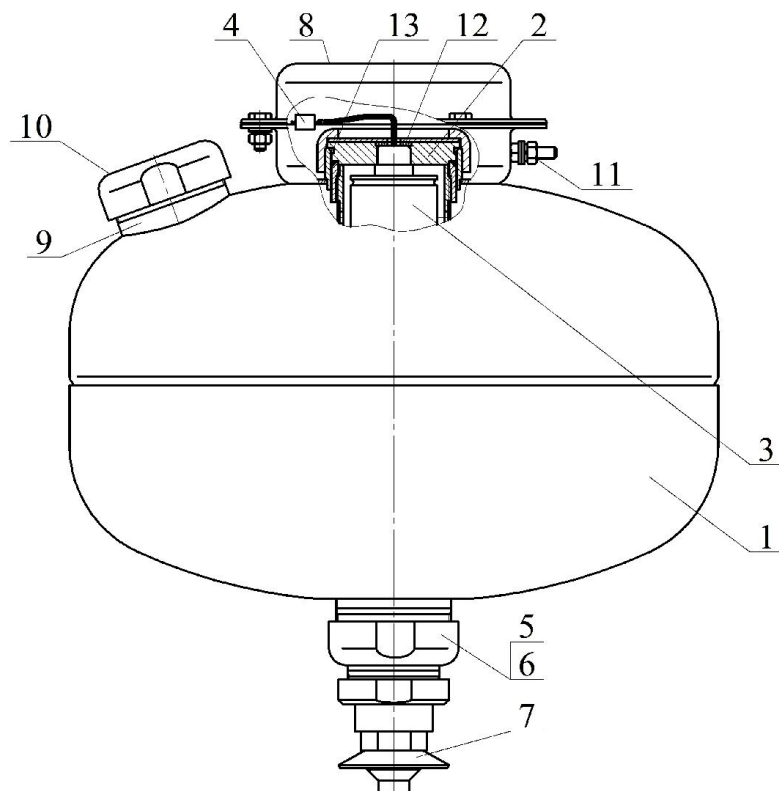
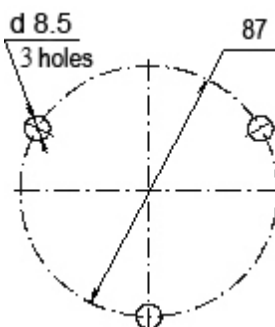

Figure 1
Figure 3
4.1.1 WSFEM (See Figure 1) consists of a case **1** filled with FES, inside which a gas-generating device **2** is placed. CGS **3** with electrical-triggering element **4** is placed inside a hermetic case of gas-generating device. Lower throat of a case is overlapped with shear membrane **5** which is pressed by nut **6**. Spray nozzle **7** is connected with nut **6** through a filter element. Bracket **8** is placed in upper part of frame for module mounting to a ceiling. Mouth **9** and safe valve **10** are also placed in upper part of a case. WSFEM has earth connector **11**.
6.3 Fasten the bracket **8** (See Figure 1) on the ceiling. Coordinates of holes in the bracket are shown in Figure 3.
6.5.3 Pour the FES solution obtained into aperture of upper throat **9** (see Figure 1). For a final preparation of FES applied to WSFEM-13.5-GZ-VD ($t^{\circ}\text{C} = -10; -30$) open a package with a liquid additive and pour it into aperture of upper throat **9**. The solution obtained according to p. 6.5.2 for WSFEM-13.5-GZ-VD ($t^{\circ}\text{C} = -50$) is a final FES. Place a safe valve **10** into throat aperture. Tighten the nut firmly from above.
6.6 Fasten nozzle-spray 7 firmly (see figure 1).
7.4 The delivery set for WSFEM recharging (see Figure 1):
- gas generating device (pos. 2) – 1 item;
- membrane of SIAV 634231.001.002 drawing (pos. 5) – 1 item;
- membrane of SIAV 634231.001.091 drawing for safety valve (pos. 10) – 1 item;
- rubber ring 050-054-25 GOST 9833-73 for safety valve (pos. 10) – 1 item;
- rubber washer o SIAV 634233.006.023 drawing (pos. 12) – 1 item;
- rubber ring 058-062-25 GOST 9833-73 (pos. 13) – 1 item;
- metal net of filtrating element in front of nozzle-spray (pos. 7) – 1 item;